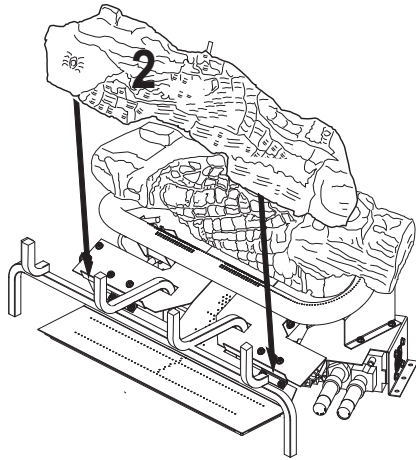

Figure 39 - Installing Log #2
2. Place the middle log (#2) in front of the U-burner and against the edges of the plate as shown in **Figure 39**.